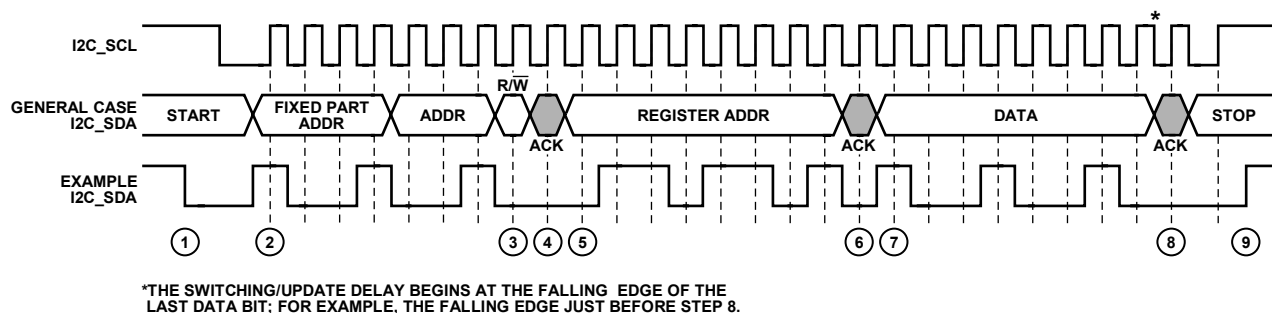

Figure 29. I2C Write Diagram
To write data to the AD8197B register set, an I2C master (such as a microcontroller) needs to send the appropriate control signals to the AD8197B slave device. The signals are controlled by the I2C master, unless otherwise specified. For a diagram of the procedure, see Figure 29. The steps for a write procedure are as follows:
3. Send the write indicator bit (0).
- 9a. Send a stop condition (while holding the I2C\_SCL line high, pull the I2C\_SDA line high) and release control of the bus to end the transaction (shown in Figure 29).
There is a delay between when a user writes to the configuration registers of the AD8197B and when that state change takes physical effect. This update delay occurs regardless of whether the user programs the AD8197B via the serial or the parallel control interface. When using the serial control interface, the update delay begins at the falling edge of I2C\_SCL for the last data bit transferred, as shown in Figure 29. When using the parallel control interface, the update delay begins at the transition edge of the relevant parallel interface pin. This update delay is register-specific and the times are specified in Table 1.